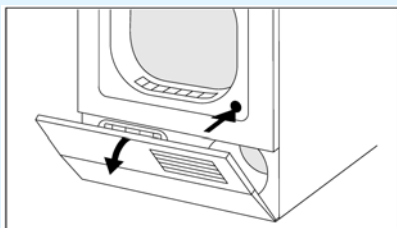

Figure 6.
3. Press the button for opening the heat exchanger/inlet panel, as shown in Figure 6.